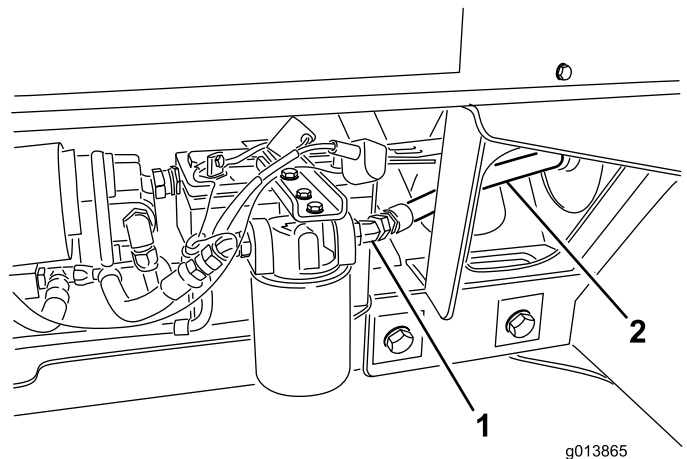

Figure 11
36. Connect hydraulic hose #3 to the filter outlet (Figure 11).